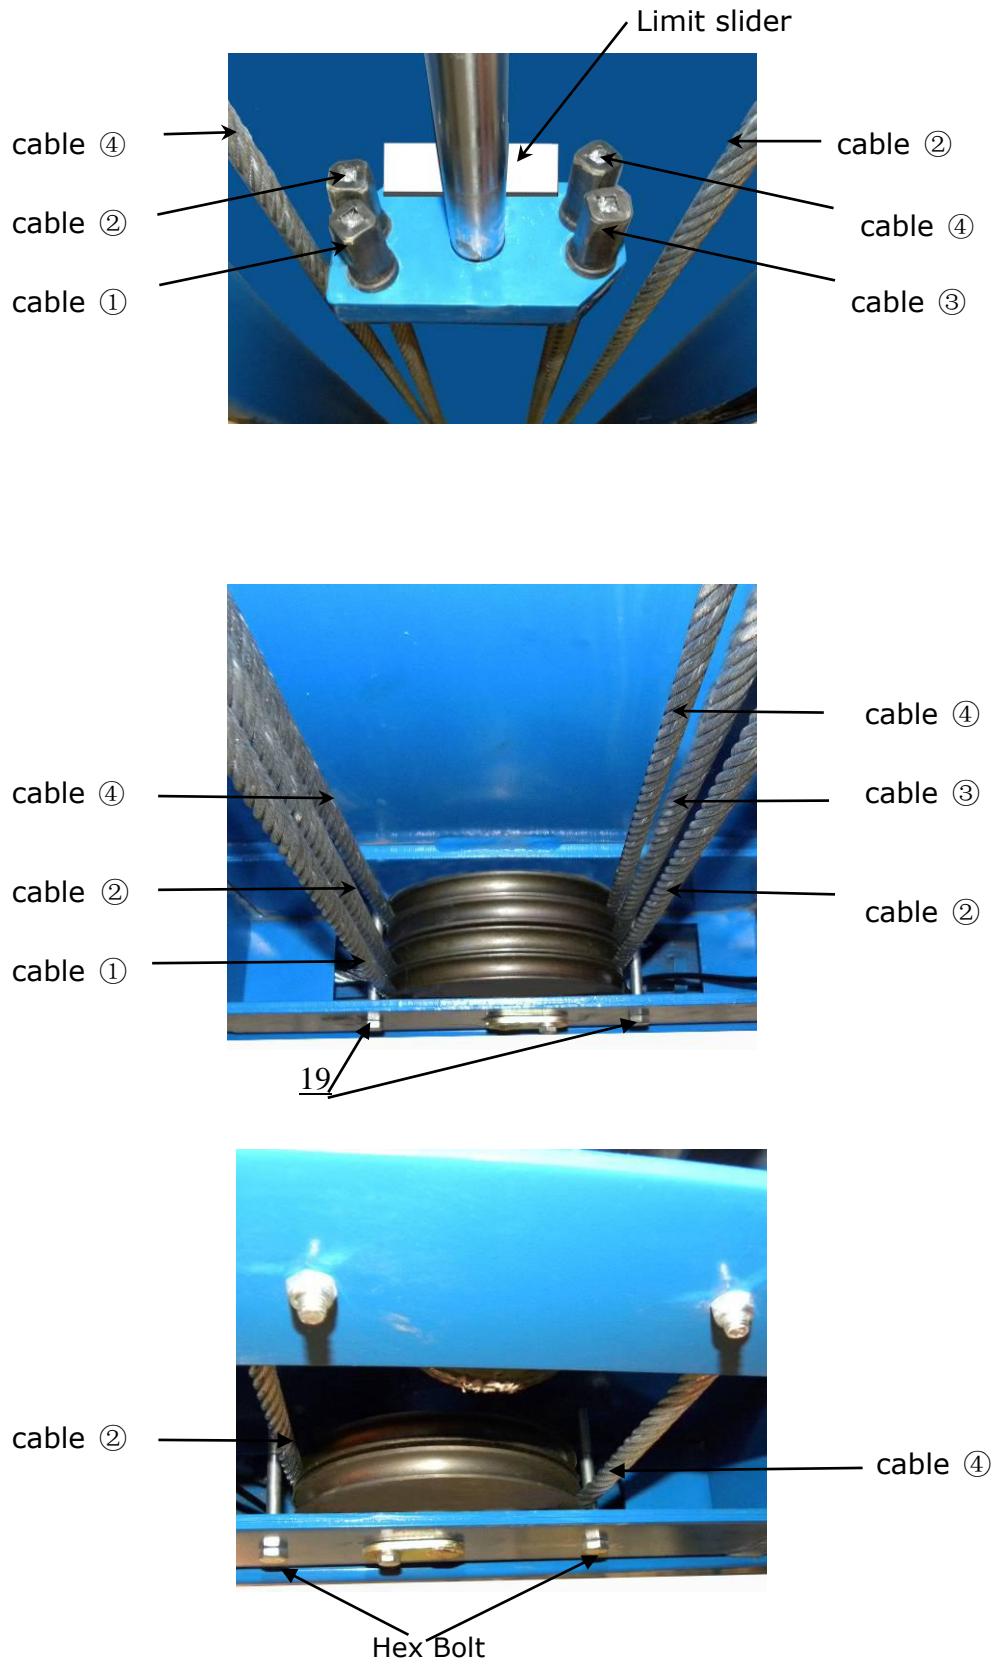

Fig. 23
3. Illustration for platform cables (See Fig. 23).